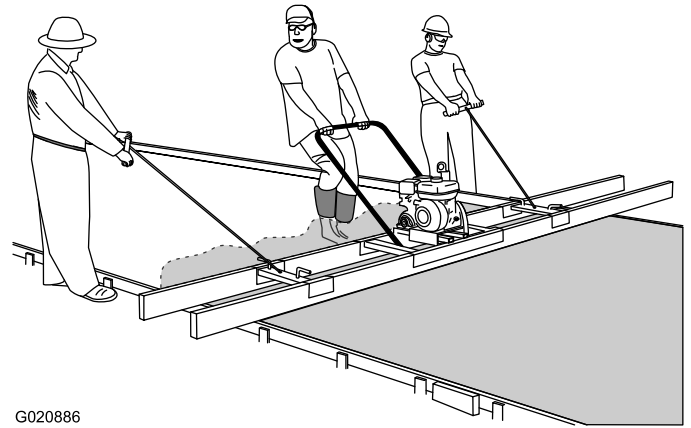

Figure 20
4. Pull the screed in slow, steady motion along the concrete forms (Figure 20).
Note: Use additional people to move the screed by having them pull the screed with the tow grips and ropes that are attached to the spreaders (Figure 20).